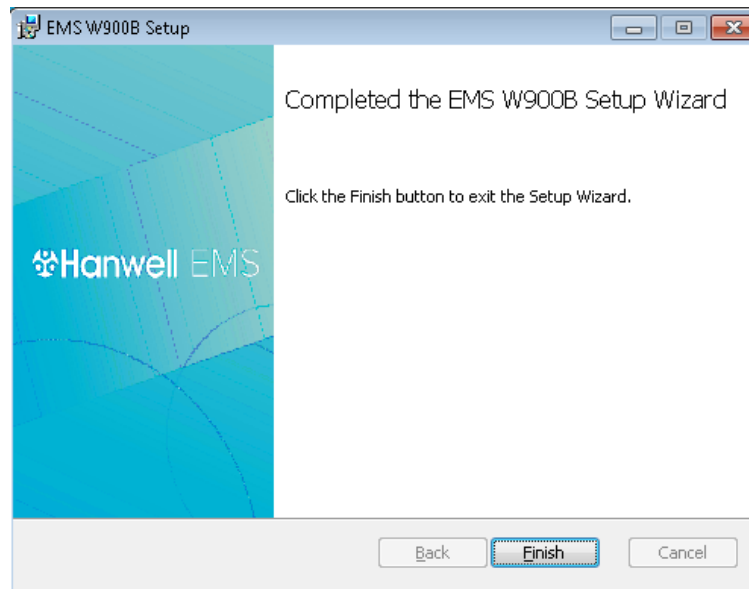

Figure 68
- The **EMS Server Setup – Completed the EMS Server B Setup Wizard** window is displayed, signifying that the EMS Server's installation is now complete. See Figure 68 below: